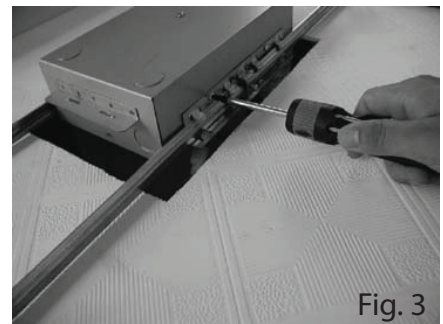

Fig. 3
7. Adjust the brackets until the bottom of the back box is even with the mounting surface and tighten to hold in place. Fig 3.